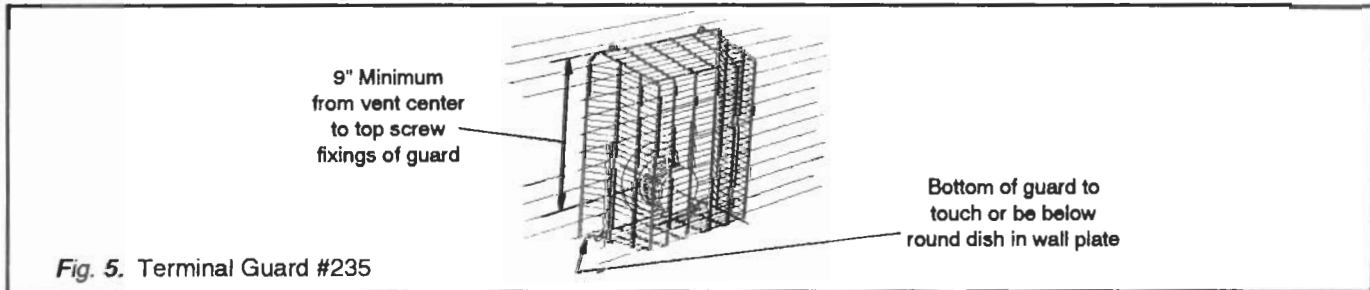

Fig. 5. Terminal Guard #235
- 2.3.5. **Warning:** If the outside vent terminal is located where it will be accessible to any person, a guard must be fitted over the terminal to prevent damage and to prevent it being touched. The vent terminal becomes very hot when the appliance is in use and can cause burns. A special guard designed for this appliance is available from your supplier - Ask for Valor Part #235 (*see figure 5*).